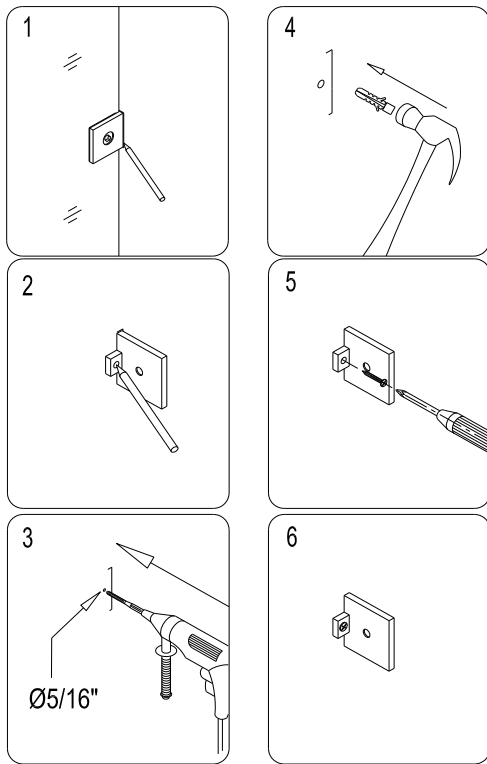

Fig. 3
4. Using the removed **Brackets**, mark the position of the holes for **Wall Bracket** installation on the wall. Drill the holes and insert the **Wall Anchors (07)** into the holes. Attach the **Wall Brackets** to wall using the **Round head screw ST 4.2x30 (09)**. See Fig. 3 for details. (**Note that all parts of the wall brackets with the mounting holes should face inward in final installation**).